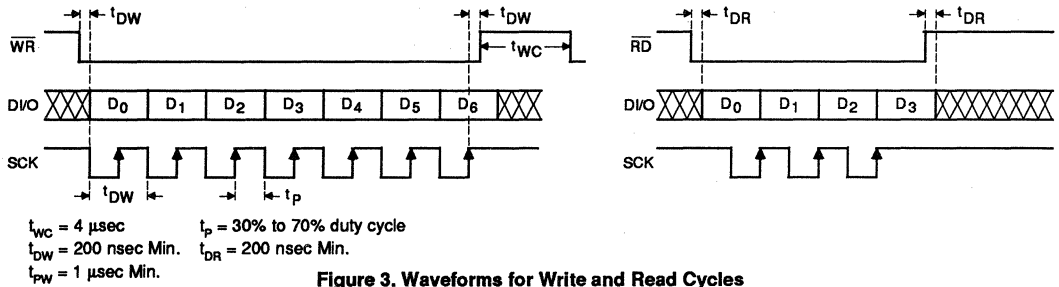

Figure 3. Waveforms for Write and Read Cycles
2. Information from the modem IC. Data is read serially from the modem when \overline{RD} is low, on rising edges of the SCK clock. (See Figure 3 for read cycle waveforms). Up to 4 data bits (D0-D3) can be read as defined below:
are shifted by repeating the above procedure. Only 7 data bits should be sent. If an 8th data bit is sent, the first data bit D0 will be lost from the input register. The received data will then be D7–D1 rather than D6–D0. To read data from the SC11004/14 (see timing waveforms of Figure 3), the RD line is first made low. The least significant bit D0 is now available on the DI/O line. The SCK line is toggled low and then high to shift the next data bit out of the SC11004/14 output register. The SC11004/14 shifts the data out on the rising edges of SCK. The controller should read data on the falling edges of SCK when it will be stable. Note that D0 appears on the DI/O line as soon as RD is taken low. If the controller only wants to read the status of the energy detector, there is no need to toggle SCK line. By making RD low, the energy detector level can be read by reading DI/O. RD can then be taken